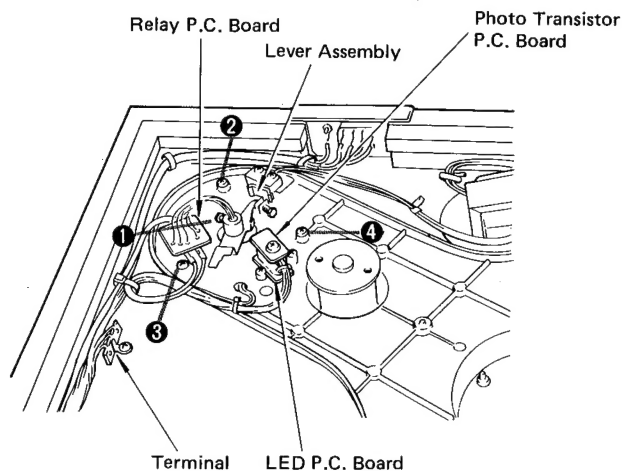

Fig. 3
3. Loosen screw 1 in Fig. 3 and then remove the lever assembly.
4. Remove screws 2 to 4 in Fig. 3 and then remove the pick-up.